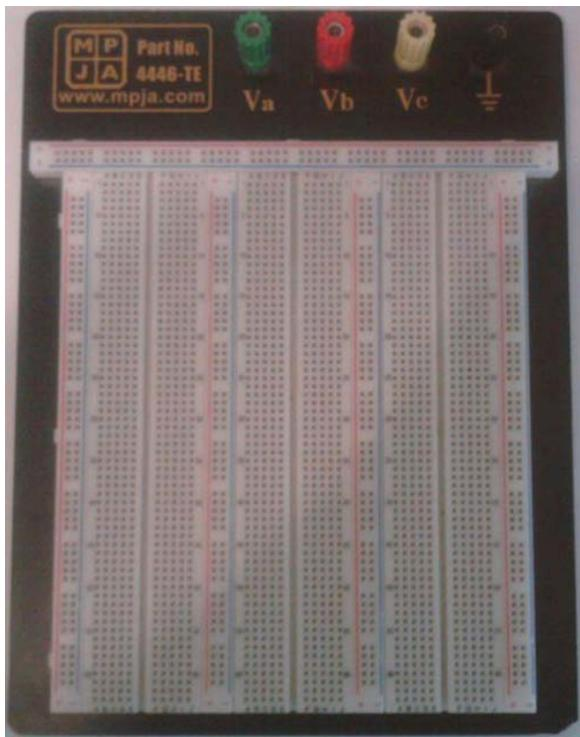

Figure 1-3. An example of a solderless breadboard
- *Solderless breadboard:* Another very important piece of hardware is the solderless breadboard (see Figure 1-3), which is used to implement your circuitry. For this book, you need to have a midsize solderless breadboard. It will be used in both the design and troubleshooting phases of the projects.